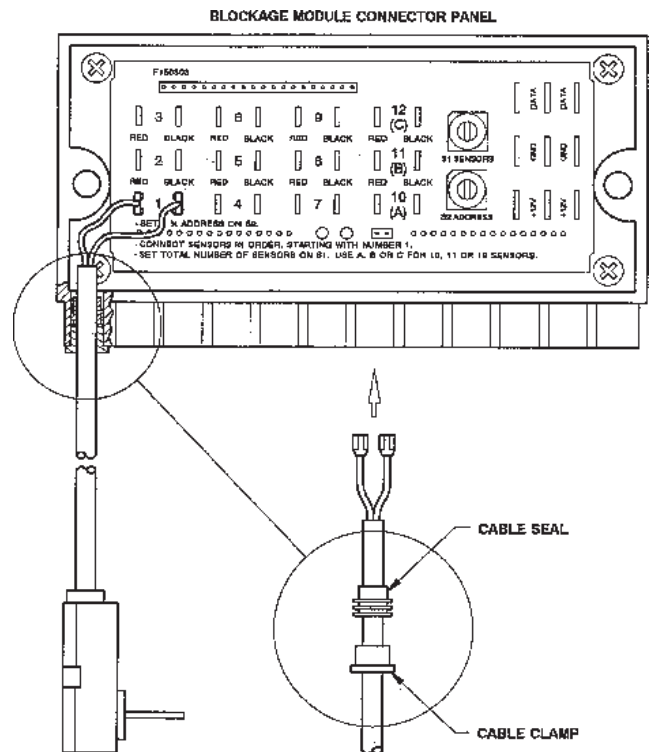

FIGURE 3: FLOW SENSOR ELECTRICAL CONNECTION
- Feed the cables through the holes in the housing and then attach the push-on connectors on the connector panel of the module as illustrated in figure 3.